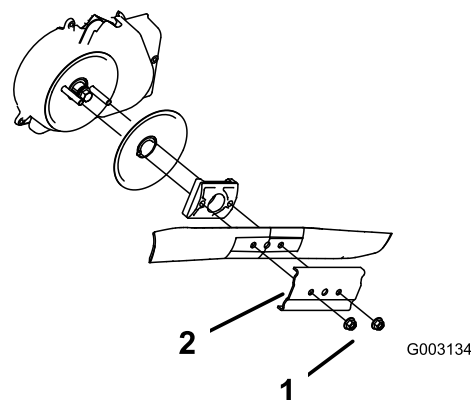

Figure 36
3. Remove the 2 blade nuts and the stiffener (Figure 36).
1. Blade nuts (2)
4. Remove the blade (Figure 36).
5. Install the new blade (Figure 36).